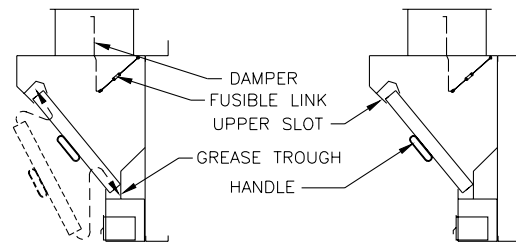

fig. 20
1. Filter Installation [Refer to fig. 20]
Some ducts are protected by fire dampers which are activated by a fusible link rated at 360°F exhaust and 286°F supply. When this temperature is exceeded, the fusible link melts allowing the fire damper to fall closed. This linkage should be inspected and the fusible links replaced annually. Fusible links in the exhaust duct collar are readily accessible by removing the baffle filters [Models AF] or grease extractor modules [Models AX]. [Refer to fig. 20 and 24] An access plate is provided for access [supply] duct collar for all models.